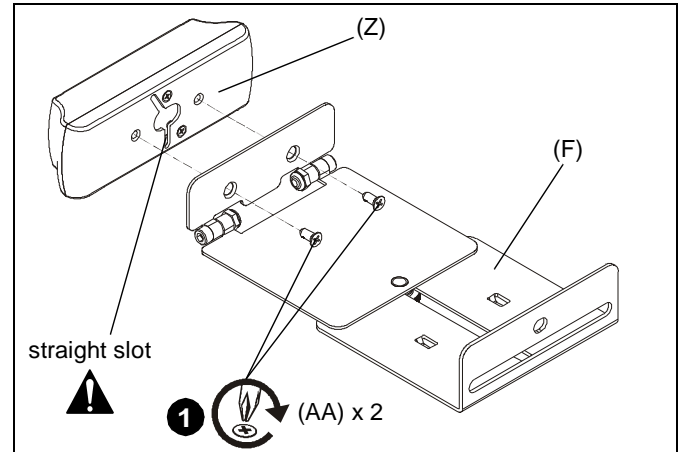

Figure 17
1. Attach camera housing (Z) to camera mount (F) using two #8-32 x 3/8" Phillips flat head machine screws (AA). (See Figure 17)
IMPORTANT ! : Make sure straight slot on camera housing is pointing in the proper direction. (See Figure 17)